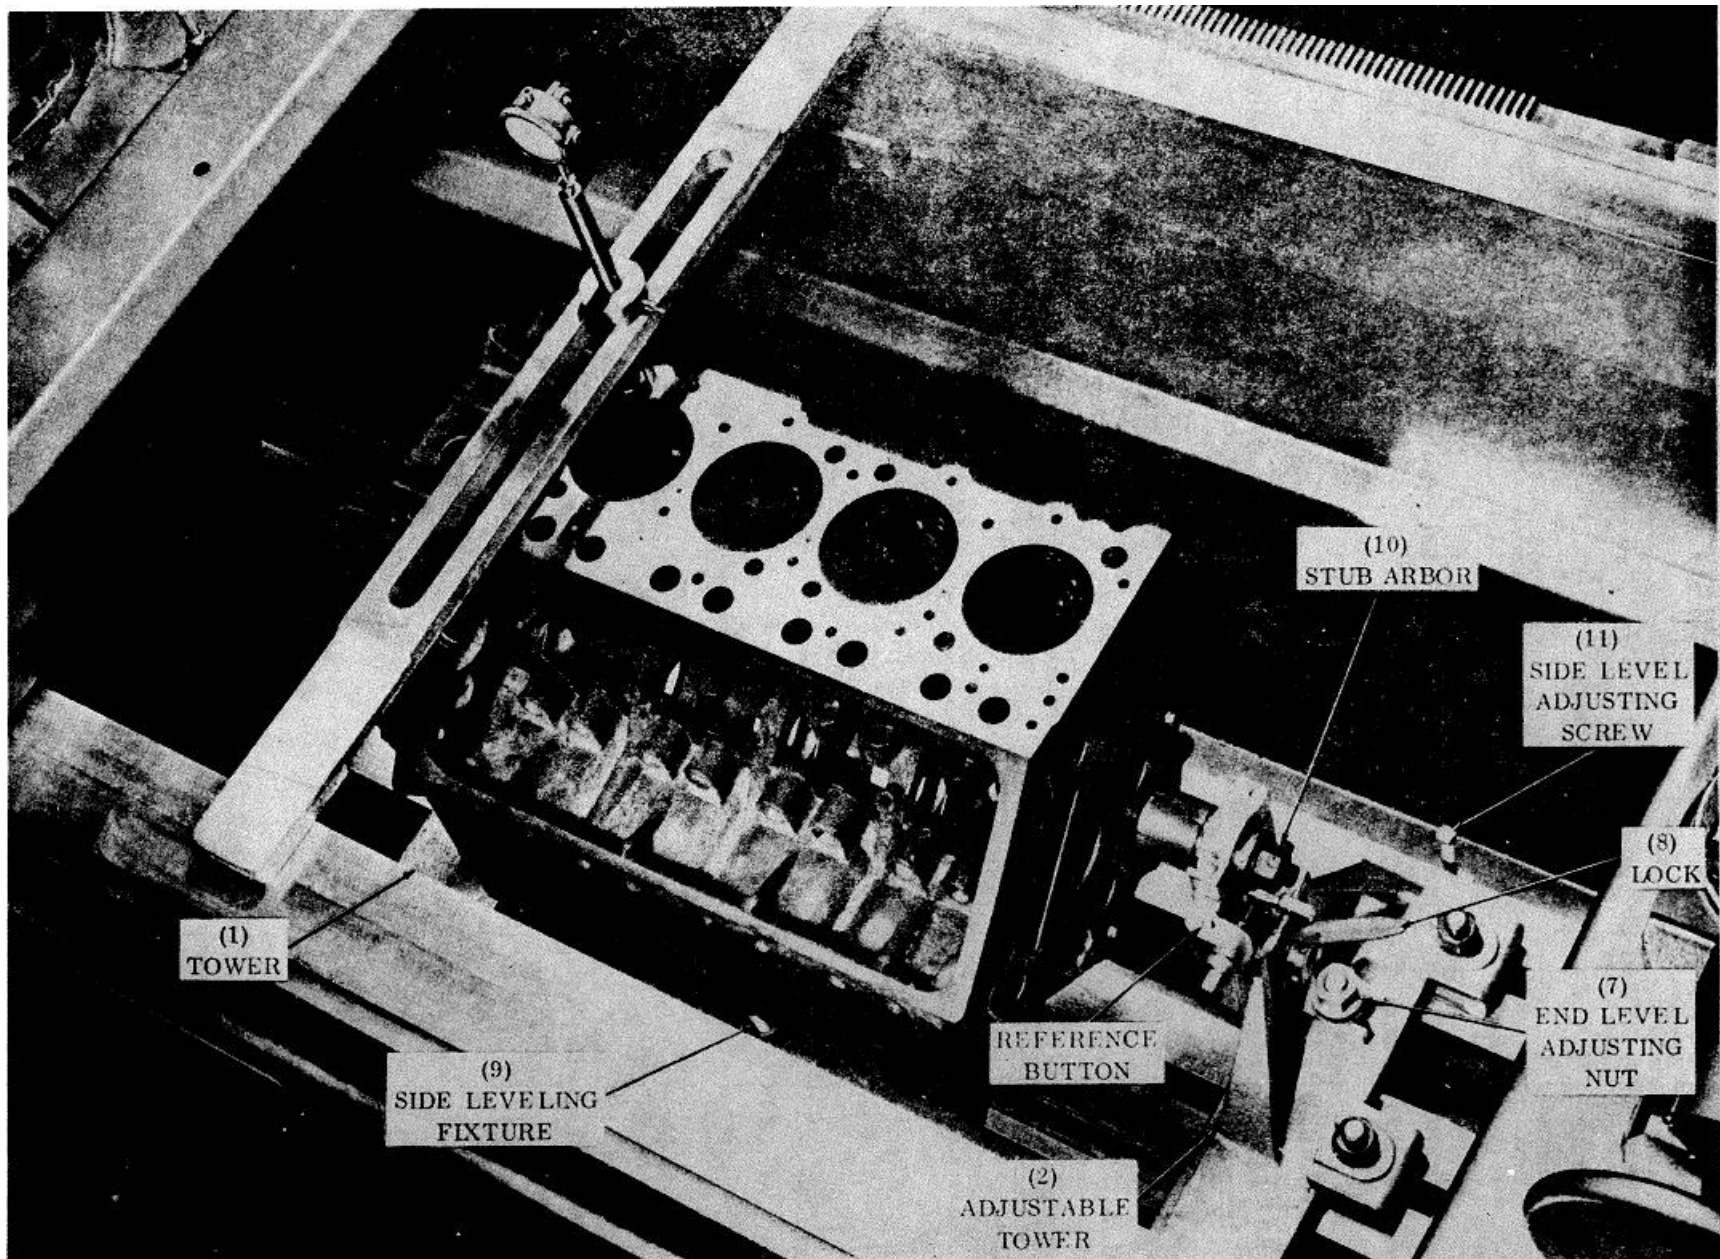

Figure 5
8. Lower table to approximate grinding height. Level block side ways by turning leveling fixture screw #11. Steps 3, 4 and 9 complete leveling end to end and front to back. (Make rough set with level and follow with indicator as shown in Figure 5.)